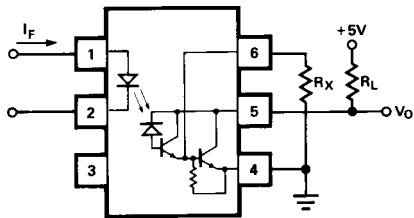

Figure 11. External Base Resistor, R_X .
8. Use of a resistor between pin 4 and 6 will decrease gain and delay time. (See Figures 11, 12, and 13.)